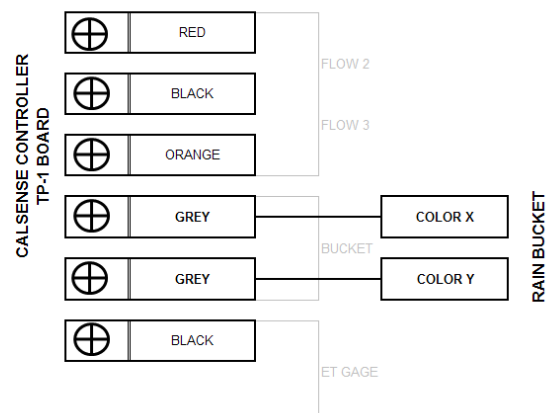

Figure 3
- 2). If the Transient Protection Board (TP-1) is used, carefully connect the two grey wires from the rain bucket to the terminals on the board labeled BUCKET (Figure 3).